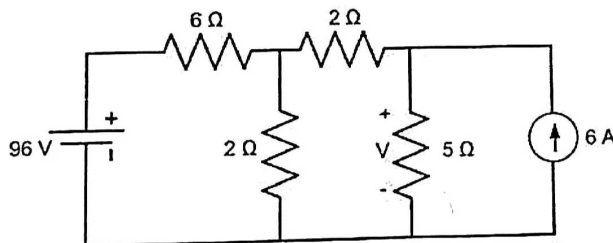

Fig 2c
- c) Determine the voltage V in the circuit shown in fig 2c using nodal analysis.